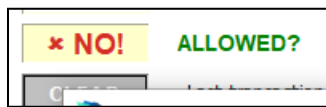
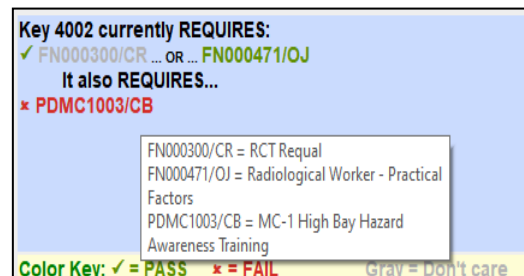

Figure 4
Figure 5
- a. If the requestor is flagged on missing or out-of-date training, you will see a large red **NO!** next to the question **ALLOWED?** (Figure 4). Pop-up windows will appear, detailing the problematic TRAIN Course IDs. If this happens, **STOP**. Hovering the mouse cursor over the *Training* Key box in the *Not Qualified* Pop-up window will allow you to see all pertinent TRAIN Course IDs and their corresponding names (Figure 5).